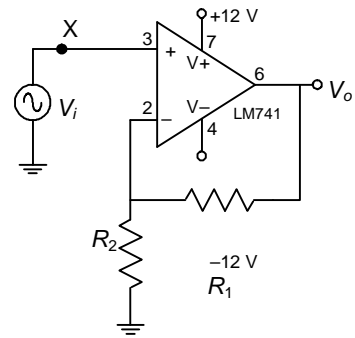

Fig. 3 Non-inverting amplifier
- 1) Assemble the circuit shown in Fig. 3 with $R_1 = 10\text{ k}\Omega$ and $R_2 = 1\text{ k}\Omega$. Make sure the power supply ground is connected to the circuit ground.